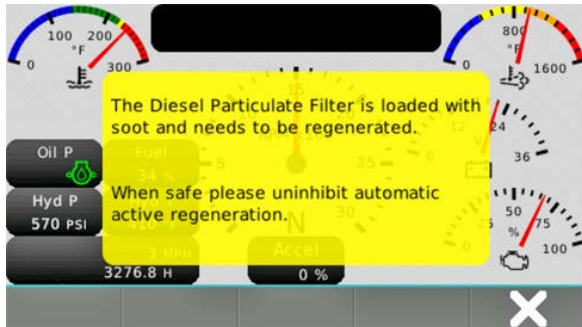

**Figure 4-27. Parked Regeneration Green Popup Message Screen**
6. Parked Regeneration is complete when the controller screen shows a green pop-up message. **(Figure 4-27)** Click on the **X** soft key to remove the pop-up message.